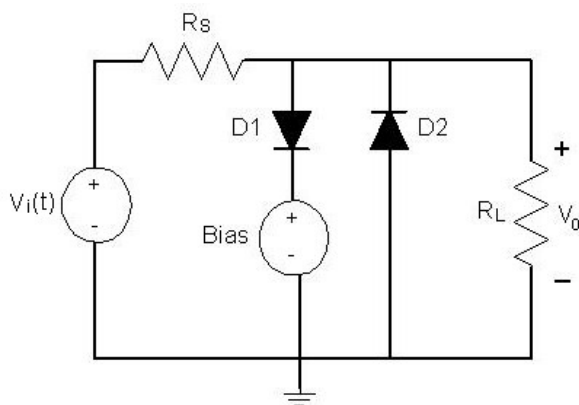
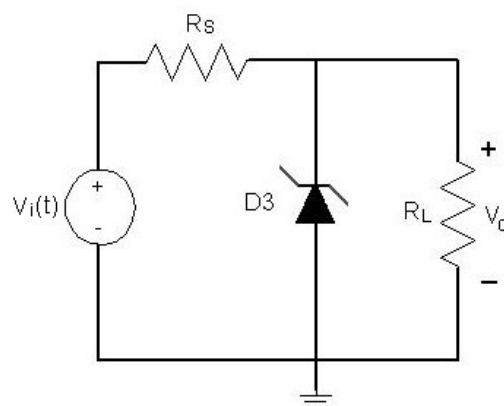

Figure 6-1 Diode Clipper
Figure 6-2 Zener Diode Clipper
1. For the circuit shown in Figure 6-1, sketch $V_i(t)$ and $V_o(t)$ on the same graph as voltage vs. time. Use $V_i(t) = \mathbf{a\ 5\ ms\ ramp}$ from -10V to +10 V. Diodes D_1 and D_2 have a forward voltage drop of 0.6V, $R_s = 470\Omega$, $R_L = 1k\Omega$, and the Bias voltage = 4.1V. **Clearly** identify the output clipping voltages. Below, calculate and **clearly** identify the input voltage points where output clipping begins. Enter the clipped voltages corresponding and input voltages in Part I-4 on the data sheet. (40 points)
1. Construct the clipper circuit in Figure 6-1 using $D1=D2=1N4001$ or $1N4003$, $R_S = 470\Omega$, $R_L = 1k\Omega$, and DC Bias voltage = 4.1V
2. The sync connector of the function generator produces a pulse that corresponds to the beginning of the waveform sent to the output connector. This pulse can be fed to the scope's external trigger so that the scope will always begin the trace when the generator waveform begins. We will use this feature to align and overlay waveforms from the circuits of Figures 6-1 and 6-2.
3. Replace D_1 , D_2 , and the bias supply with $D_3 = 1N4732A$ 4.7V, 1W Zener (the circuit shown in Figure 6-2).
4. Overlay the waveforms from Fig 6-1 with the waveforms from Fig 6-2 and save the overlay. _____ .txt